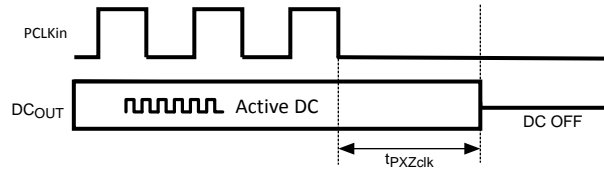

Figure 3. Stop Pixel Clock (PCLK) Power Down
| $t_{PXZclk}$                   | Disable Time - Clock Stop           | PCLK to DC OUT <a href="#">Figure 3</a> (7)             |     | 2                  |     | PCLK cycles |